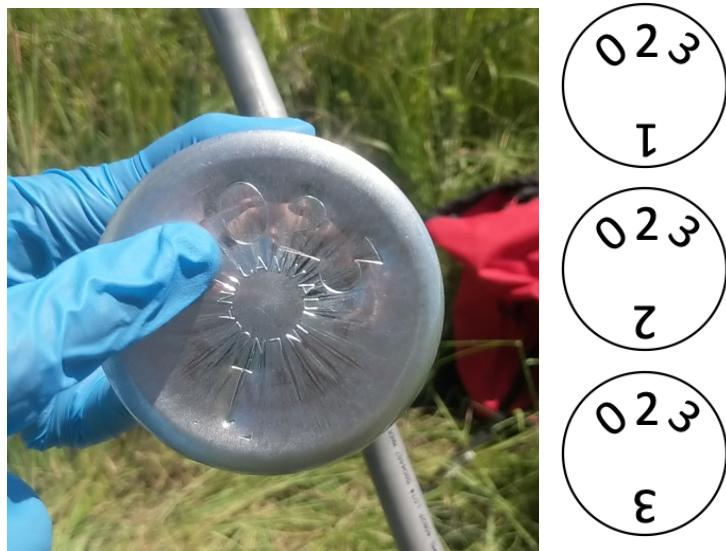

Figure 2. Close-up picture of antler lid from the inside. Note the longer tube on the left, which should be oriented to point upwind, away from the fin.
7. Still wearing gloves, sterilize the inside of the antler lid (lid modified with tubes) with an alcohol wipe. Be sure to sterilize all parts, including the aluminum tubes and epoxy and pay special attention to the difficult to reach inner seal and threads (Figure 2).
11. Slide the replacement canister into the bracket and tighten using a flathead screwdriver. Be sure to position the antlers so that the longer tube is facing upwind or away from the fin. If you cannot tell which tube is the longer tube, you can take a quick peek inside the canister (Figure 2). You may need to make several adjustments to make sure that the tubes are parallel with the ground and that the can is tightly attached. Note that tightening the bracket can twist the canisters. **Do not** unscrew the lid in order to make the tubes parallel, please adjust the whole canister.